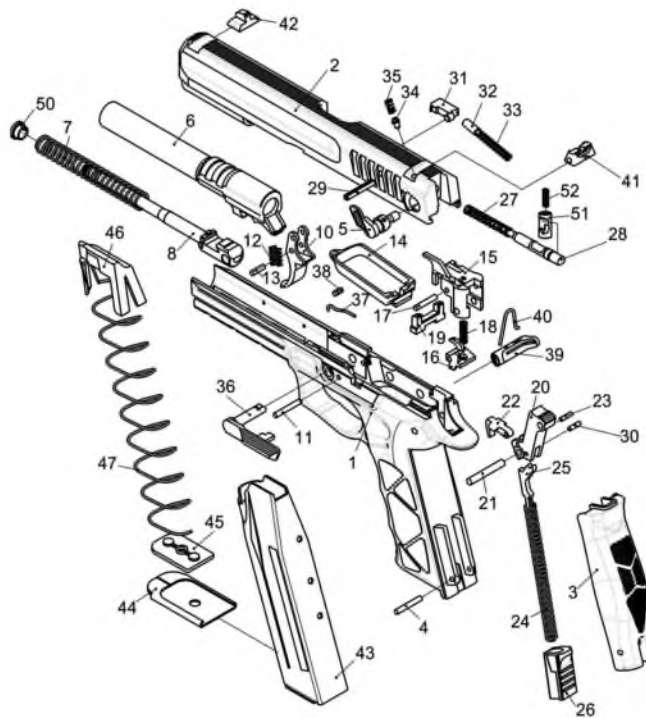
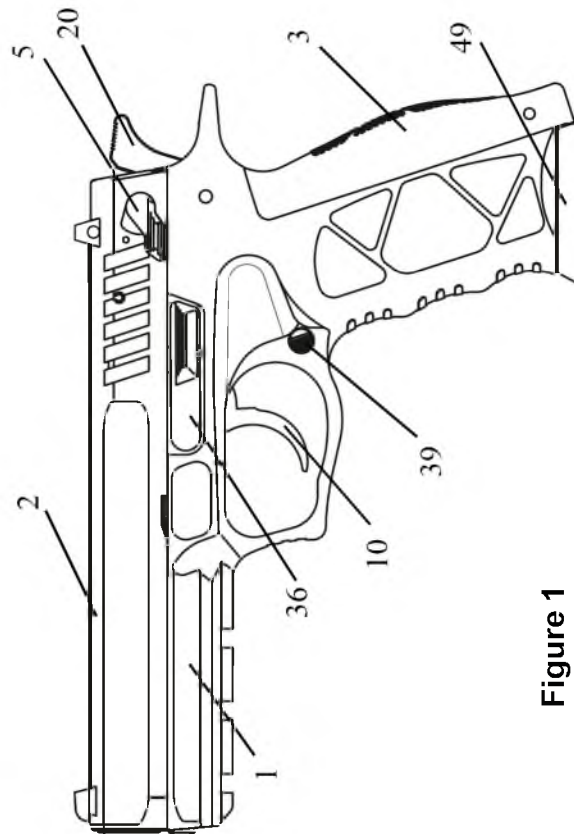

Figure 3
Figure 1
**Pistol Fort-19: parts list for figures 1, 2, 3**
The appearance and location of pistol controllers are shown in Figures 1 and 2, and the location of pistol parts in Figure 3.